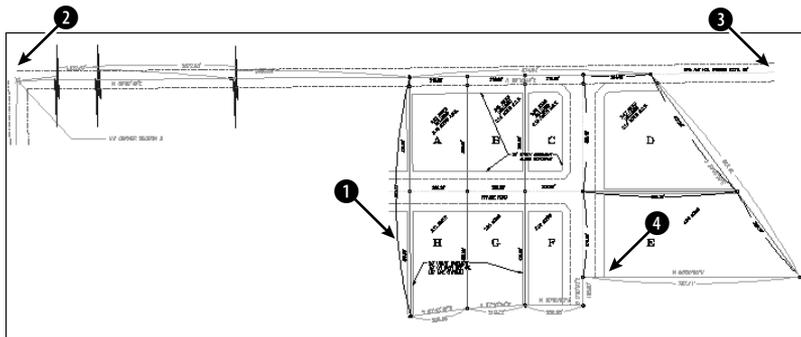

Figure 12-5: A civil engineering drawing of several plots of land.
1. Open `ab12-a.dwg` from the CD-ROM if it isn't already open from the previous exercise. This is a civil engineering drawing showing several plots of land, as shown in Figure 12-5. OSNAP should be on. Set a running object snap for the endpoint.
2. Choose Tools ⇨ Inquiry ⇨ List. At the Select objects: prompt, pick ❶ in Figure 12-5. Press Enter to end object selection. The result is shown in Figure 12-6. Note the surveyor's units.
3. Choose Tools ⇨ Inquiry ⇨ Distance. At the Specify first point: prompt, choose the endpoint at ❷ in Figure 12-5, using the endpoint running object snap. At the Specify second point: prompt, choose the endpoint at ❸. Here's the result:
4. Choose Tools ⇨ Inquiry ⇨ ID Point. At the Specify point: prompt, pick the endpoint at ❹ in Figure 12-5. Here is the result: